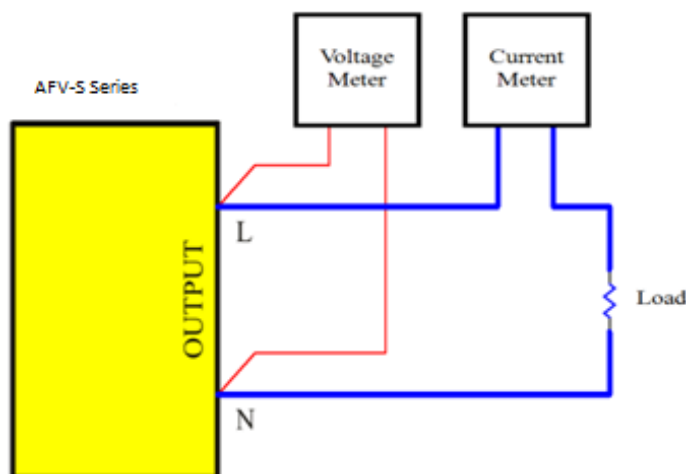

Figure 4.1 Instrument connection for calibration
2. Connect the product with the voltage meter (refer to Figure 4.1).
2. Connect the product with the voltage meter (refer to Figure 4.1)
2. Connect the product with the current meter and suitable load (refer to Figure 4.1).